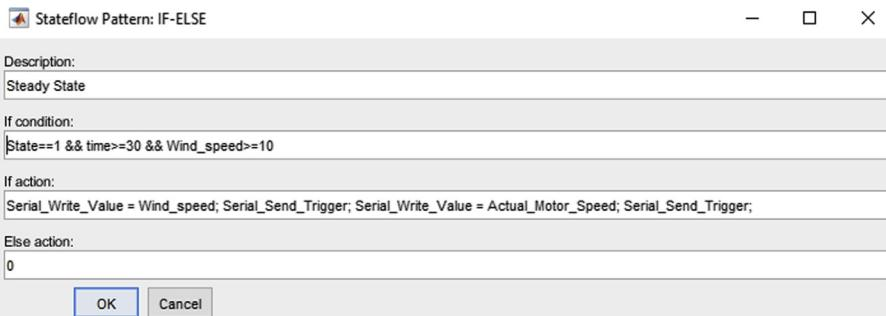

Figure 10.41 Conditions for the If-Else.
20. Insert the conditions for the If-Else as shown in Fig. 10.41. Notice that the If action is the same statement that was there previously when stateflow was sending messages all the time. The If condition will now only send messages when state is in STARTUP, time is greater than 30 s, and wind speed is greater than 10 m/s. The time condition is to make sure we are not capturing any overshoot. This is initial guess based on the results shown in the previous section. The wind speed greater than 10 m/s in conjunction with the time condition will make sure only the wind increasing speed option is chosen. Since this wind speed is going to be an input for the digital twin and it will take some time for the digital twin to reach steady state, decreasing wind speeds may yield lower RPM value than steady-state value as per the piecewise function. The If-Else loop is shown in Fig. 10.42.